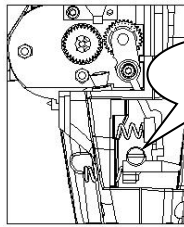

Fig. 5
5). Pay attention not to drop the smaller spring B at the other end of release lever when take spring A. (Fig. 5)